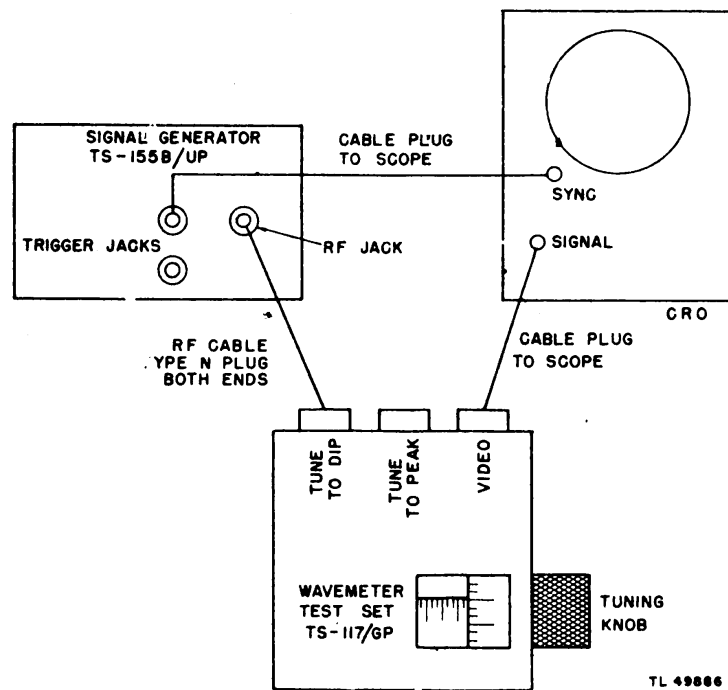

Figure 31. Connection of Signal Generator TS-155B/UP, Wavemeter Test Set TS-117/GP, and test oscilloscope.
(1) Connect the power cables of the signal generator and the test oscilloscope to the a-c line.
(2) Turn the power switches to ON and the R.F. OSC switch to OFF: Wait 3 minutes for the signal generator and oscilloscope to warm up.
(3) Set the selector switch to CALIB.
(4) Balance the monitoring meter reading to zero by adjusting the METER ZERO SET control.
(5) Throw the R.F. OSC switch to the ON position.
(6) Rotate the R.F. OSC OUTPUT potentiometer until the monitoring meter reads approximately 160.
(7) Connect the signal generator, the wavemeter, and the test oscilloscope as shown in figure 31. Adjust the scope controls to give a steady picture showing several cycles of the triggering pulse.
(8) Obtain the dial reading for the desired frequency from the calibration chart on the back of the wavemeter.
(9) Set the micrometer adjustment to the correct reading.
(10) Turn the R.F. TUNING knob on the signal generator until a dip occurs in the signal on the test oscilloscope.
(11) Change the r-f cable to the TUNE TO PEAK receptacle on the wavemeter.
(12) Adjust the R.F. TUNING dial on the signal generator to give maximum amplitude of the signal on the oscilloscope. The
(3) To measure the frequency of Signal Generator TS-155B/UP, attach the signal generator, wavemeter, and test oscilloscope together as shown in figure 31. Set the selector switch on the signal generator to CALIB. Adjust the scope controls to give a steady picture on the screen, showing several cycles of the triggering pulse.